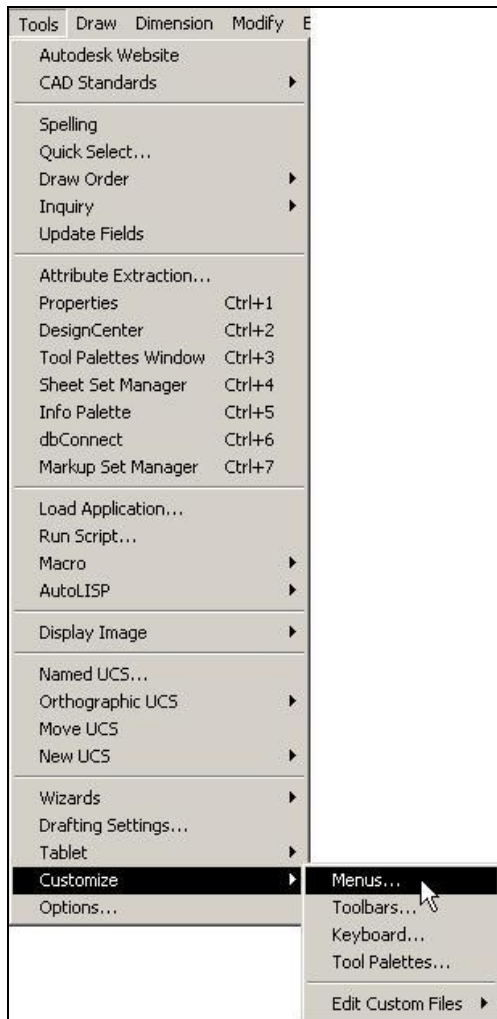

Fig. 4
- 7) To Load the Pipe Menu: Launch AutoCAD, go to the **Tools** pull down menu and select **Customize Menus...**(Fig. 4) On the **Menu Groups** tab click **Browse...** Next locate and select the **VicPipe.mns** menu file in the **Menu** folder (located in C:\Program Files\VB3D\_Cmplete 3D, where C:\ is the drive in which VB3D\_Complete was installed) and click **Open**. Next, click the **Load** button. The menu group will appear in the **Menu Groups:** area. Next, select the **Menu Bar** tab. Under Menu Groups, select **Vic\_Pipe**. In the **Menu** area, select **VB3D\_Complete**. In the **Menu Bar** area and choose where you want the